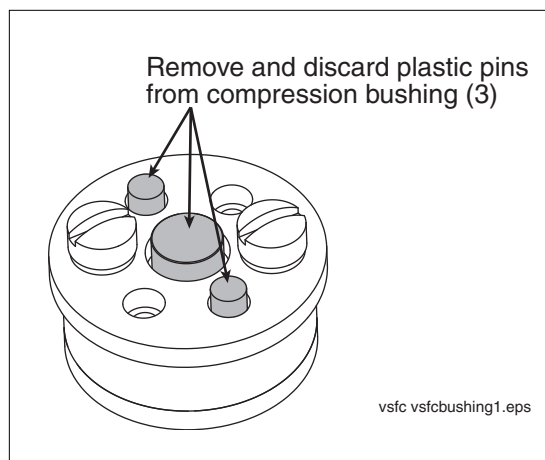

Figure 23. Compression Bushing
2. If necessary loosen the two screws in the top of the compression bushing until you can lift it out of the manifold (see Figure 23).